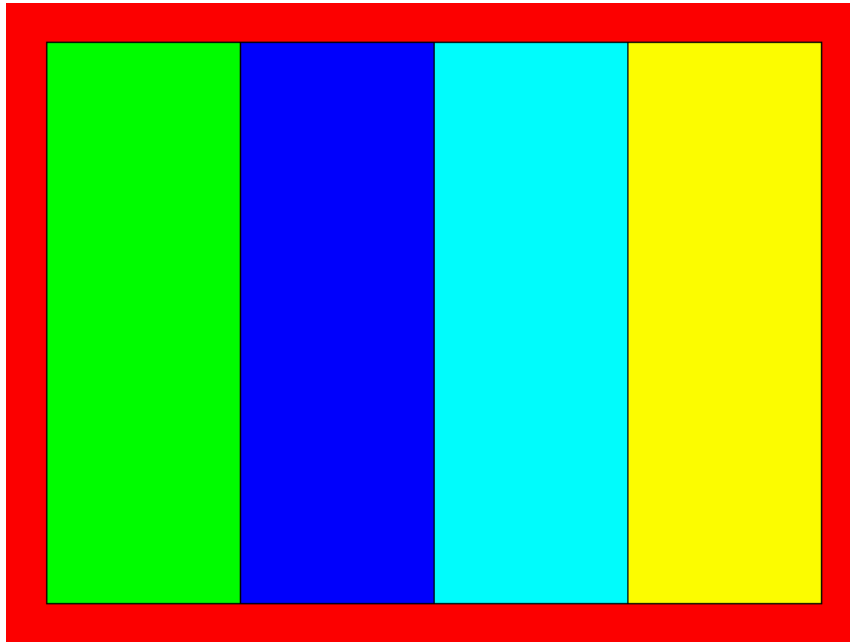

FIG. 51
2. Press the CANCEL (X) or ENTER (T) key to terminate test and return to DISPLAY TEST MAIN Screen, from which another test can be selected.
- **Bit Patterns** - This test is used to detect jitter and alignment defects. It verifies proper operation and compatibility of the Microboard Display Controller with the display. Four vertical bars of green, dark blue, light blue and yellow, outlined by a red border are displayed. If the vertical bars are not stable or straight, or the red border is not completely visible, then either the Microboard Program Jumpers are not configured correctly for the installed display or the Microboard Display controller is defective. Refer to Figure 51.